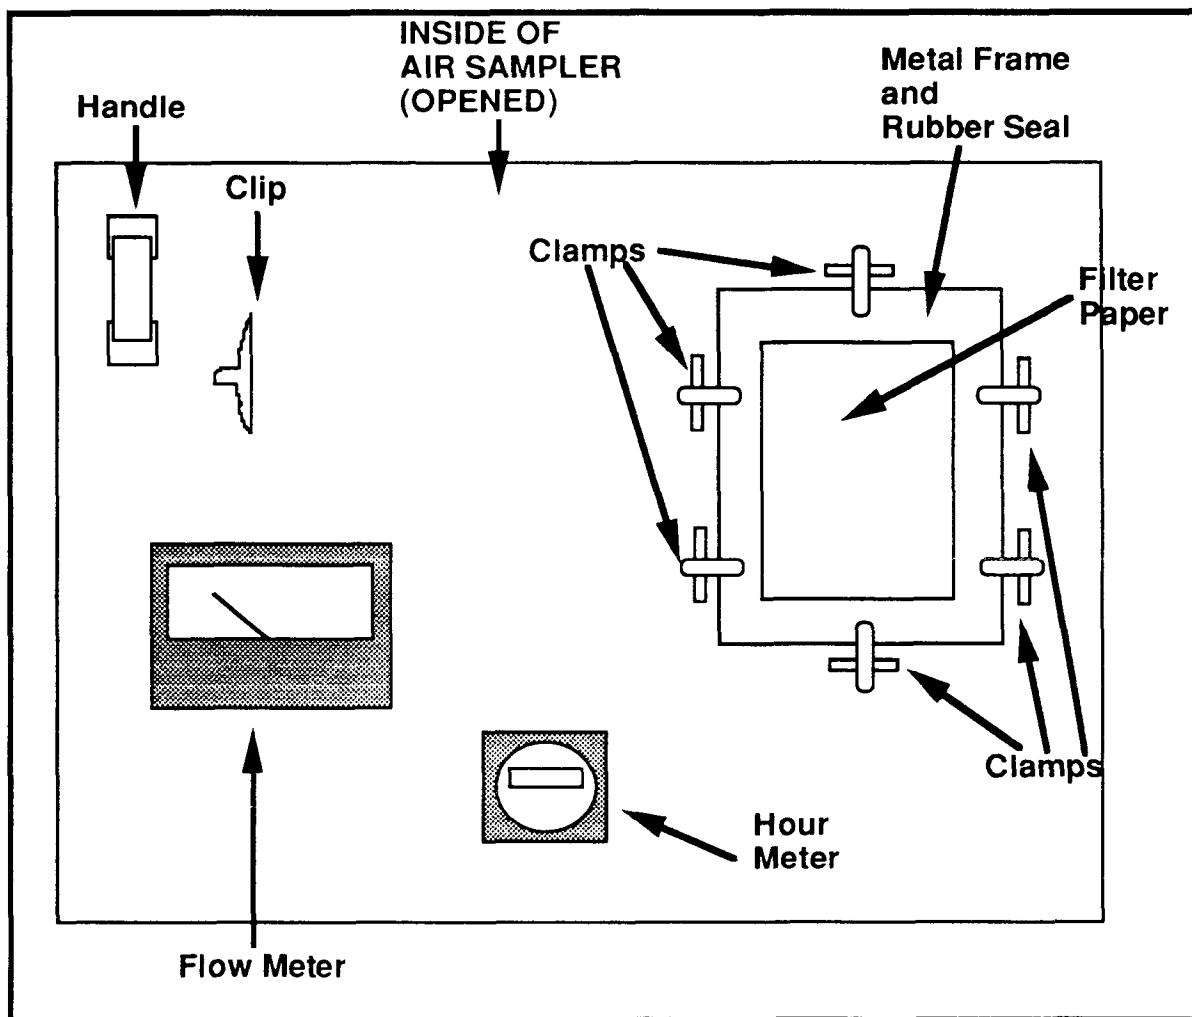

Figure 2, Pre-1994 Air Sampler
**NOTE** *Figure 2, Pre-1994 Air Sampler, depicts the parts of an older sampler, five of which are collocated with the routine air samplers.*